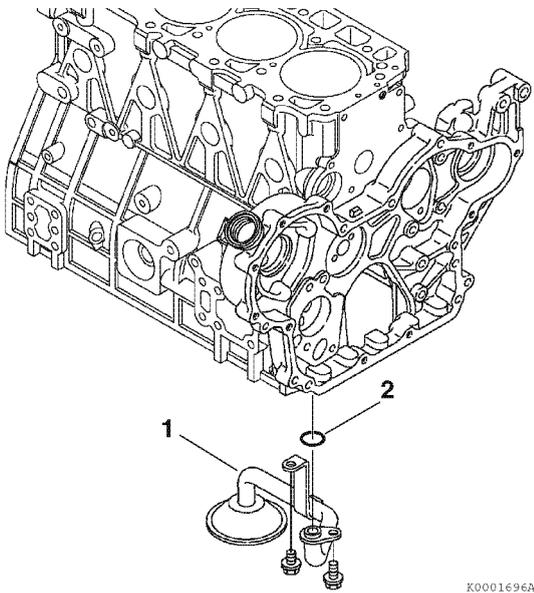

Figure 6-51
3. Remove the oil pickup tube (1, **Figure 6-51**) and O-ring (2, **Figure 6-51**).